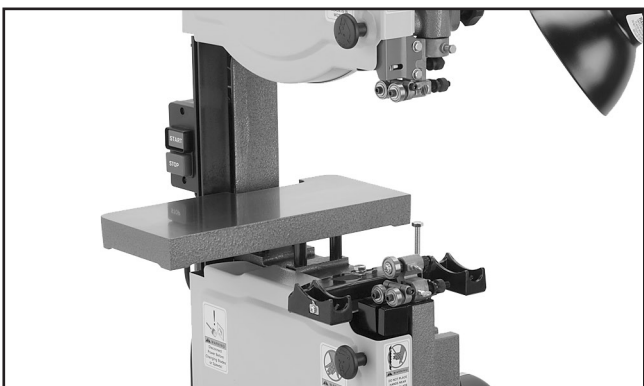

Figure 11. Extension table installed.
11. Attach the extension table to the lever board with the four M6-1 x 25 cap screws, four 6mm flat washers, and four 6mm lock washers (**Figure 11**). Only thread the cap screws in halfway for now (adjustments to the extension table will be made later).